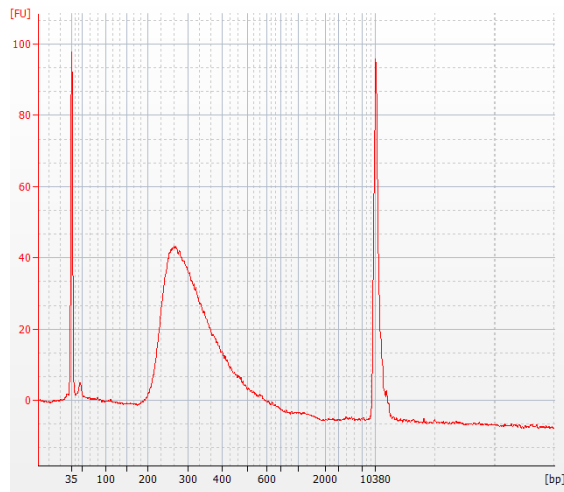
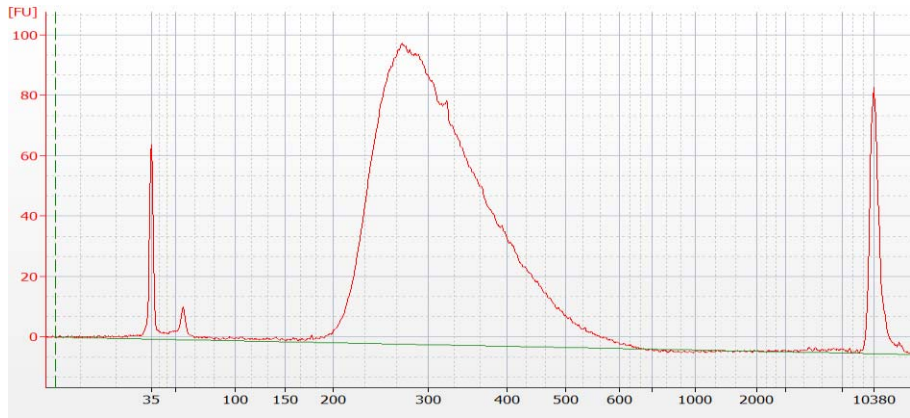

Figure 6 Post-capture amplified library DNA prepared from a high-quality RNA sample analyzed using a High Sensitivity DNA Assay.
Figure 7 Post-capture amplified library DNA prepared from an FFPE RNA sample analyzed using a High Sensitivity DNA Assay.
- 4 Verify that the electropherogram shows the peak of DNA fragment size positioned between 200 to 350 bp. Sample electropherograms are shown in Figure 6 (library prepared from high-quality RNA) and Figure 7 (library prepared from FFPE RNA).